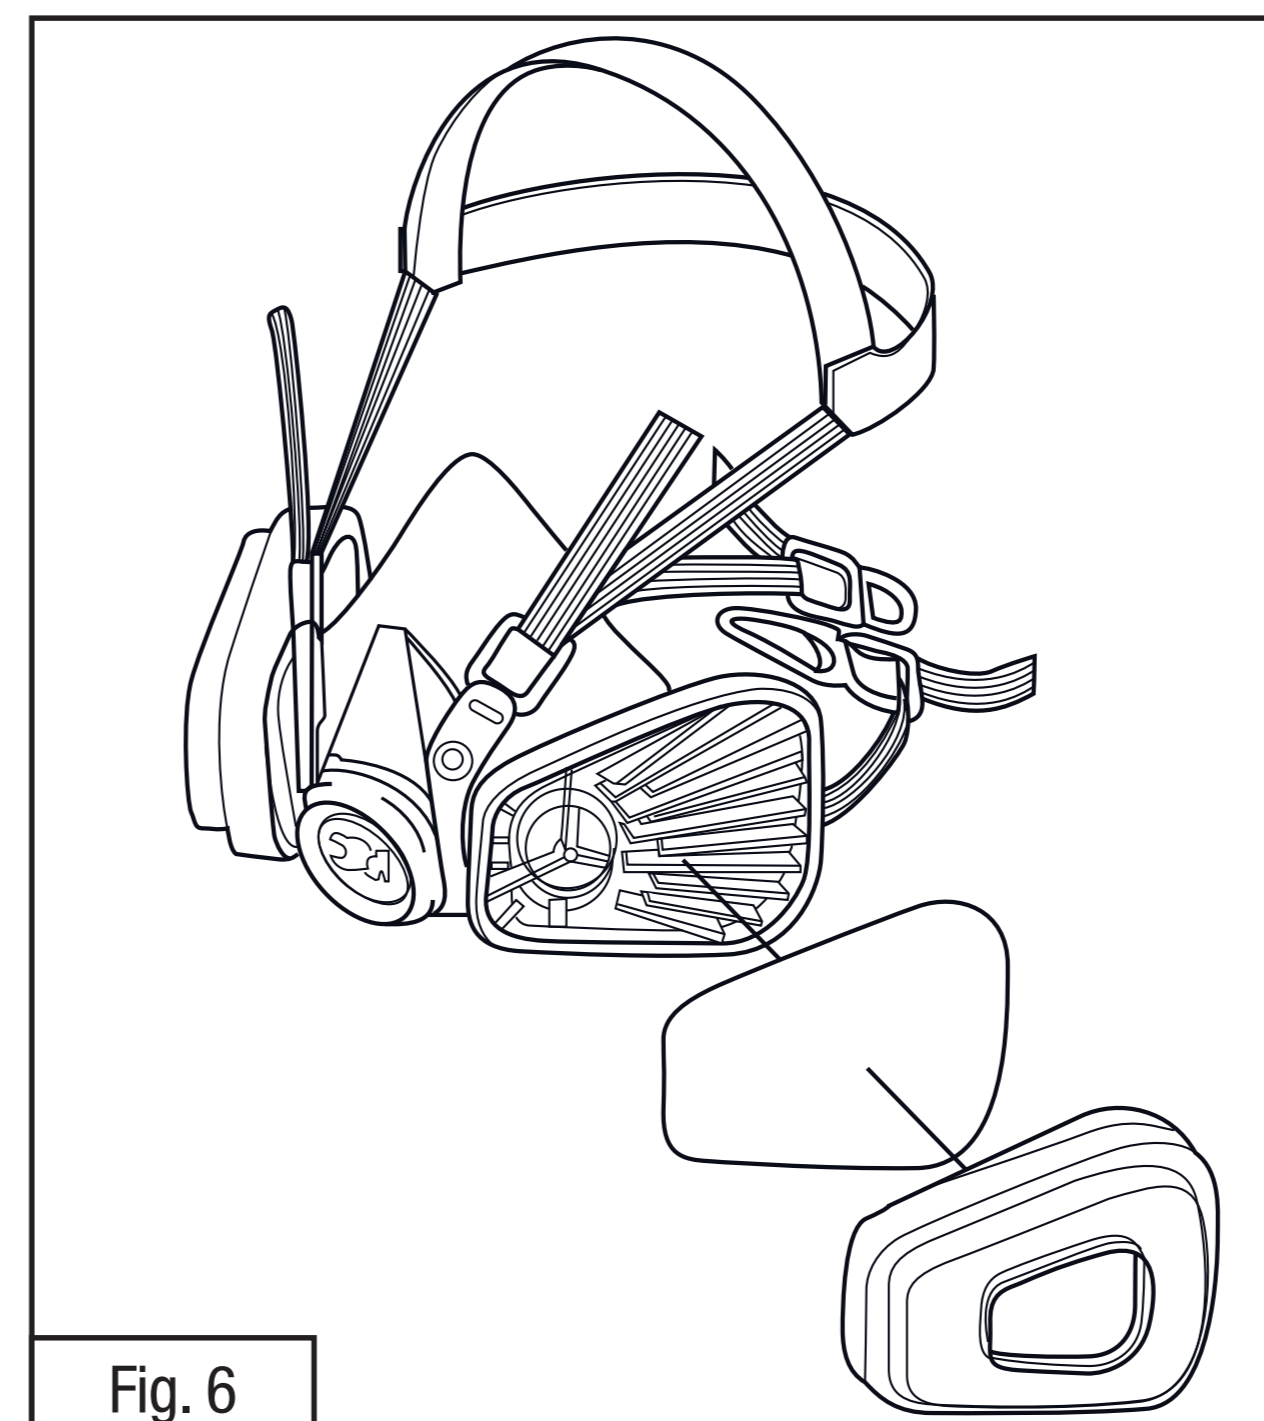

Fig. 6
3. Place filter into 501 retainer with filter printing facing towards the 603 adapter. Snap together and ensure the filter seal is free from creases or gaps. (Fig. 6)